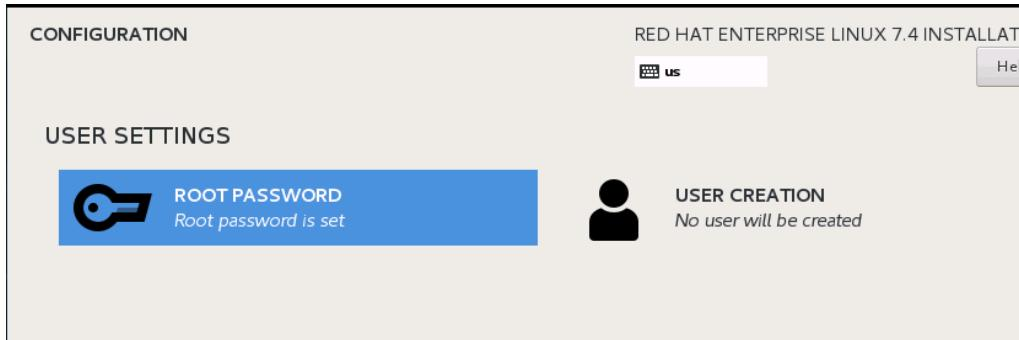

Figure 9-18. Red Hat Enterprise Linux 7.4 Configuration
8. In the Configuration window (Figure 9-18), select the language to use during the installation process, and then click **Continue**.